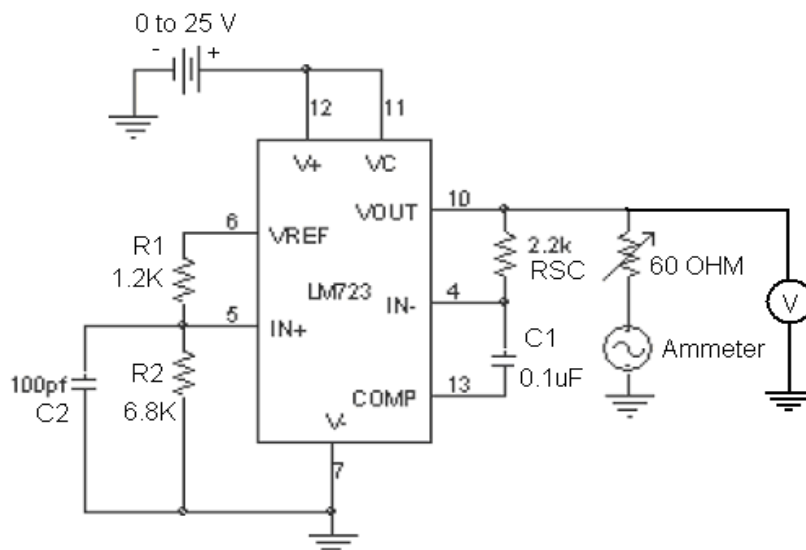

Fig. 13.1 LM723 AS LOW VOLTAGE REGULAATOR (6V)
- Do the connections as shown in fig.13.1 for designing the values refer the design procedure given below.